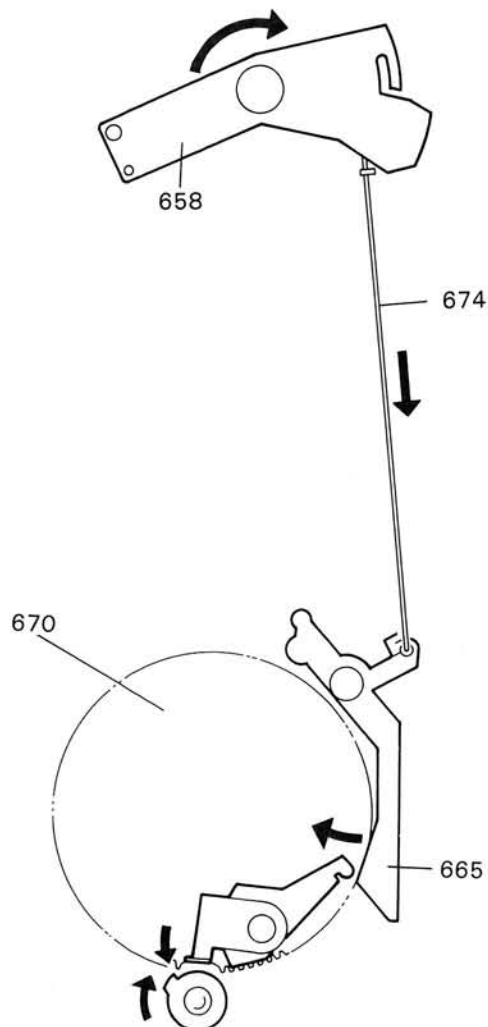

Fig. 10
In this connection, the return lever (665) also rotates to push the reset lever on the motion gear (670) so that the guide cam and the TT gear are engaged with each other to let the motion gear assy (670) rotate. (Fig. 10)